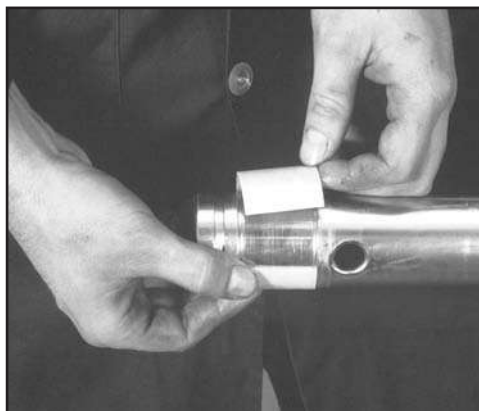

FIG. 73: POSITION REAR SLIDE TAPE
2. Slide the piston in and position the rear slide tape (see Fig. 73).